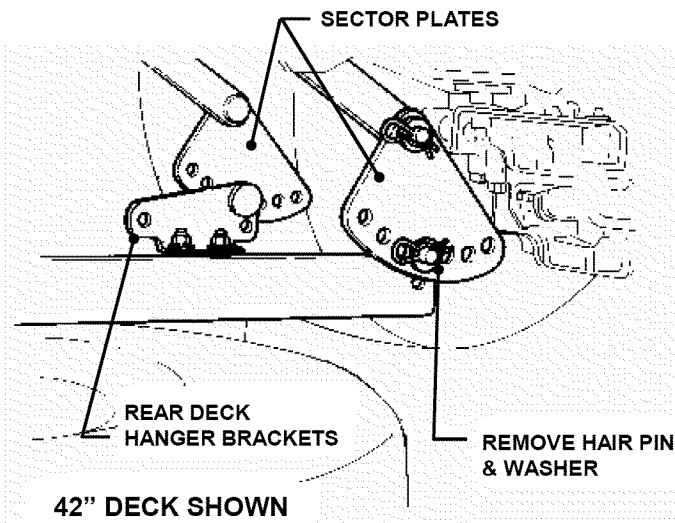

FIGURE 4.29
11. Slide sector plates off of rear deck hanger brackets. See Figure 4.29.